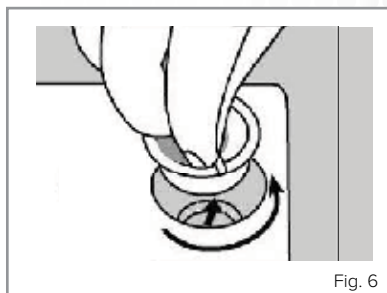

Fig. 6
- Open the rinse aid compartment by turning and removing the cap (Fig. 6).